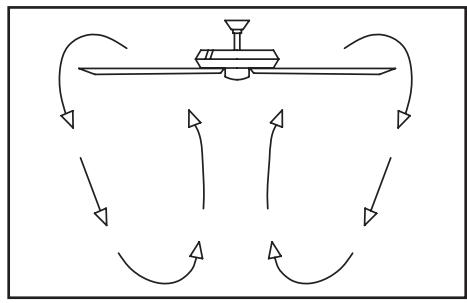

Figure 18
**Cool weather** - (Reverse) An upward air flow moves warm air off the ceiling area as shown in Figure 18. This allows you to set your heating unit on a lower setting without affecting your comfort.